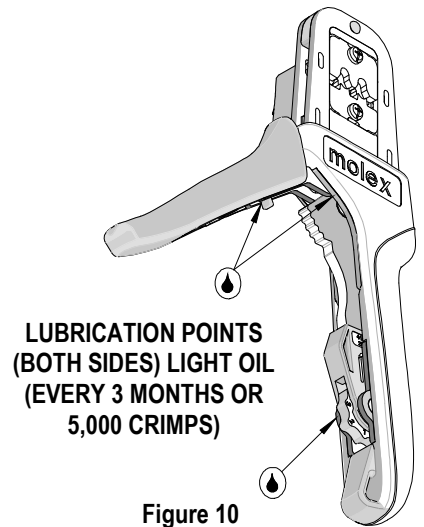

Figure 10
1. Hold the hand tool in the palm of your hand as shown in Figure 10. Using your index finger, squeeze the link toward the top of the hand tool frame. This will release the preload adjustment wheel.
2. Rotate the setting wheel counterclockwise (CCW) to increase handle force. The numbers will display higher. To decrease handle force, rotate the setting wheel clockwise (CW).